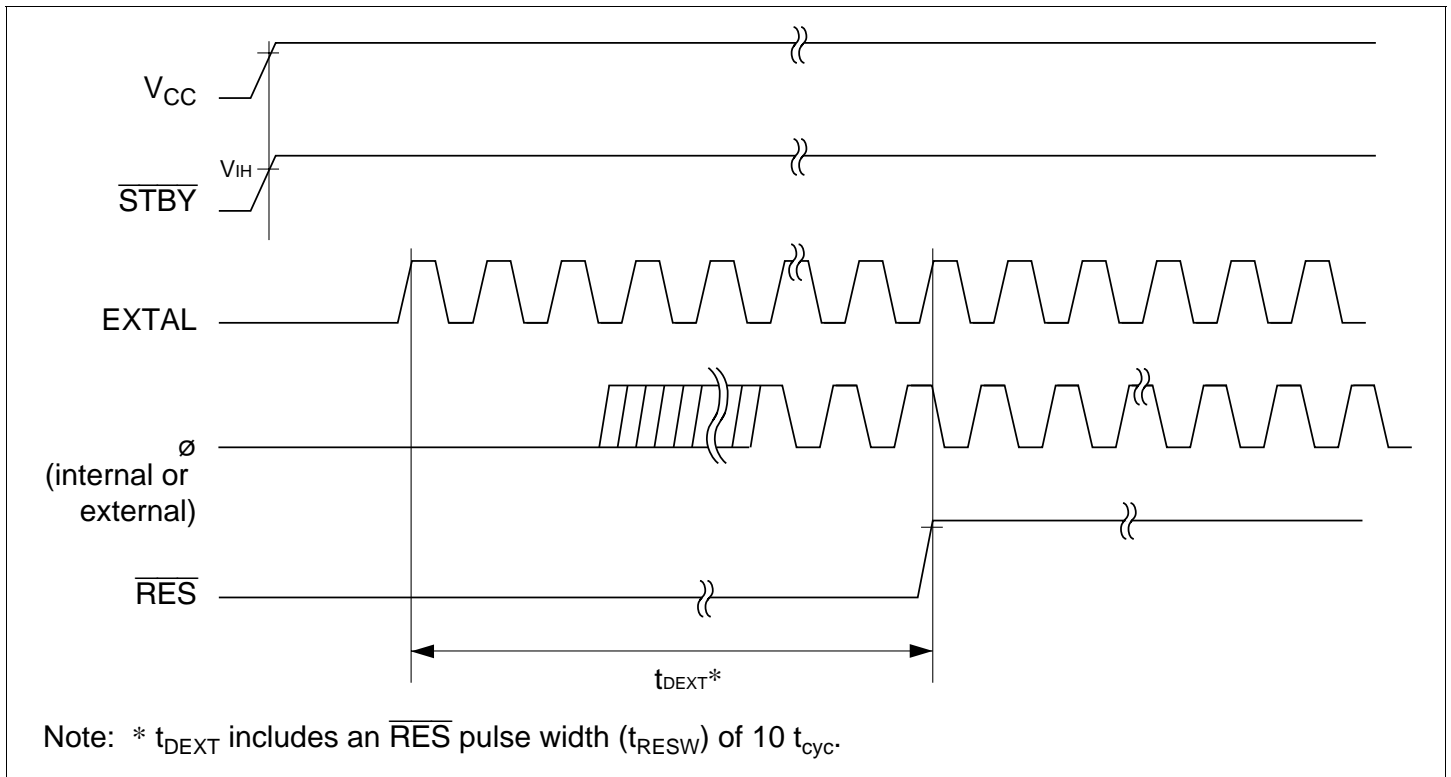

Figure 23.25 External clock output delay Timing
23.5.10 External Clock Output Timing	Figure 23.25